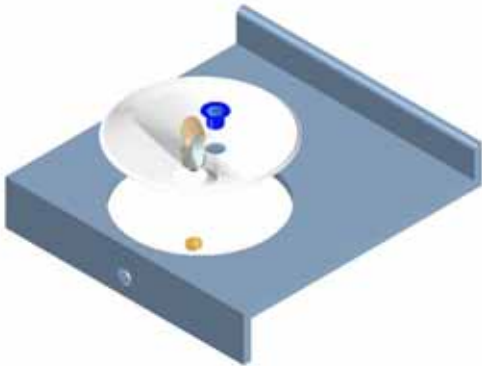

Figure 2
4. Place fountain over opening and drop in strainer. (See Figure 2)